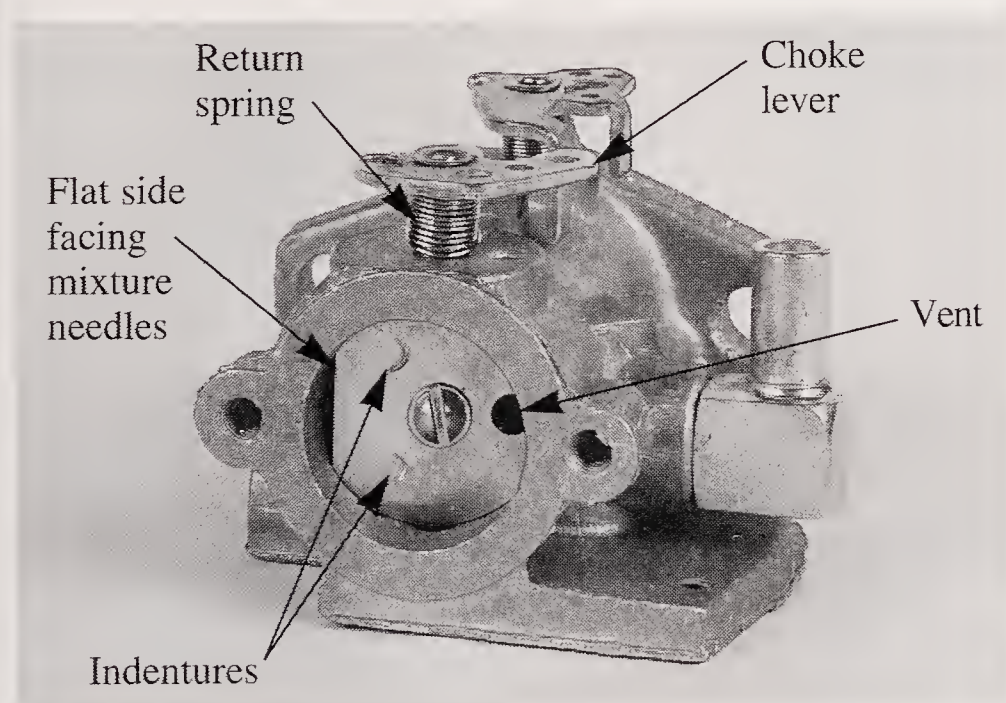

Figure 13-29. Choke valve assembly is shown in place in carburetor air horn.
2. Assemble the choke plate in the same way as the throttle. It is *vented*, which means that it has openings to allow some air to enter even when it is closed. **Figure 13-29** shows the flat side facing the mixture needles and the indentations facing outward.